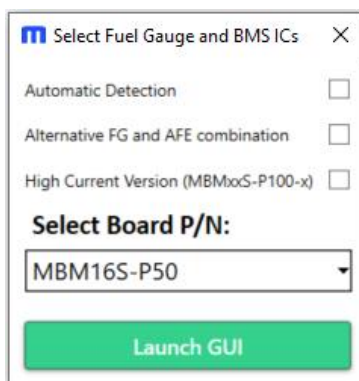
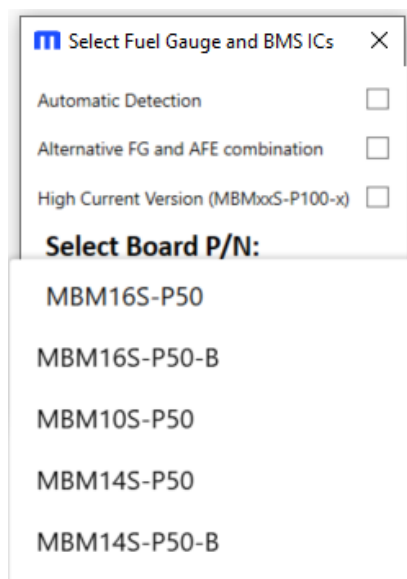

Figure 20: Fuel Gauge and BMS ICs Selection Window 1
Figure 21: Fuel Gauge and BMS ICs Selection Window 2
- a. Manually select the MBMxxS-P50-x version in the drop-down menu (see Figure 20 and Figure 21).